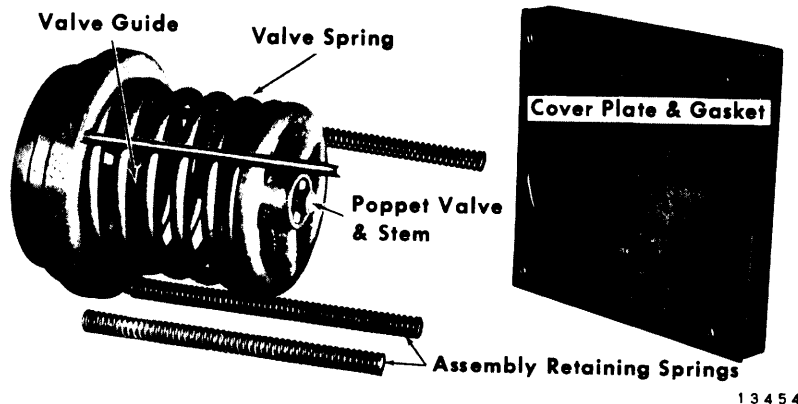

Fig. 2-7 — Filter Bypass Valve Assembly
13. At the intervals stipulated in the Scheduled Maintenance Program, remove and inspect the pressure relief valve assembly, Fig. 2-7. The procedure is detailed in the article entitled Inspection Of Bypass Valve Assembly.
The bypass valve assembly, Fig. 2-7, should be removed and checked periodically at intervals stipulated in the Scheduled Maintenance Program or whenever improper oil filtration is suspected. However, operation of the valve assembly can not be effectively checked on the locomotive. For this reason it is recommended that qualified spare assemblies be available for exchange with the assembly in use. A bench test and inspection may then be performed in accordance with the appropriate Maintenance Instruction listed on the Service Data page.